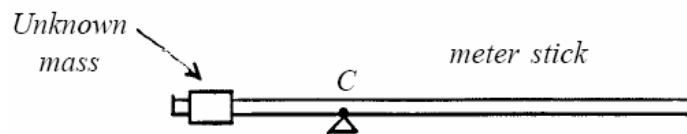

Figure 8.3. Loaded ruler balanced at C
1. Tape an unknown mass near one end of the ruler as shown in Figure 8.3. Keep the mass at the same position for the rest of this part.